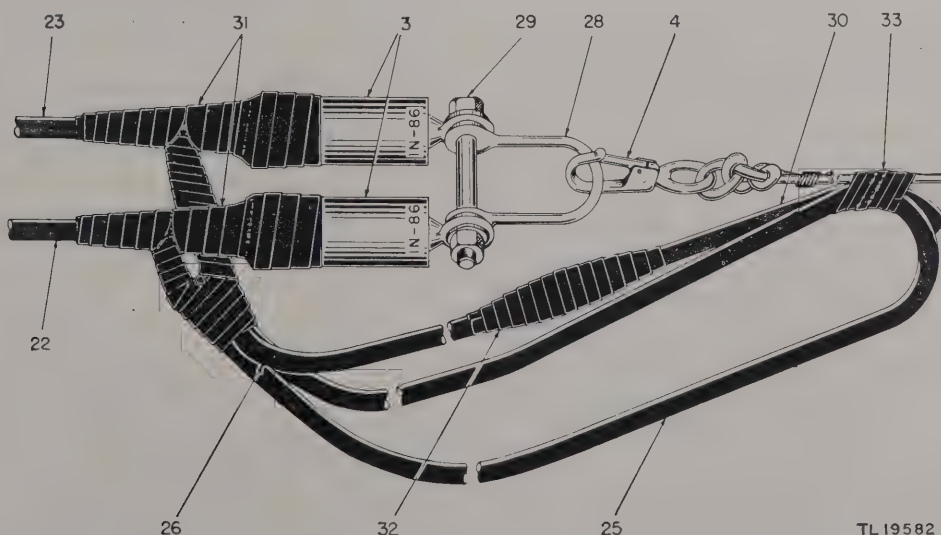

Figure 70. Method of taping coupling unit and cable connectors.
a. **WATERPROOFING TRANSMISSION LINE COUPLING SYSTEM.** Cover the transmission line coupling system thoroughly with Tape TL-94 as illustrated (fig. 70), making sure that the tape forms a watertight joint around each insulator and each cable. Use at least one full roll. Fasten the tape end firmly against wind action with Twine RP-13.
b. **WATERPROOFING FEED CABLE ASSEMBLY.** Attach the feed cable extension consisting of one or more Cords CD-800 or CG-107/U (35-, 50-, or 65-foot) (item No. 30, fig. 67) to the feed cable (item No. 26, fig. 67), or to each other by means of coaxial cable connectors PL-258 (item No. 37, fig. 67). Test the tightness of these connections. Then tape the joint or joints in the usual way with at least two layers of Tape TL-94 (item No. 32, fig. 70).